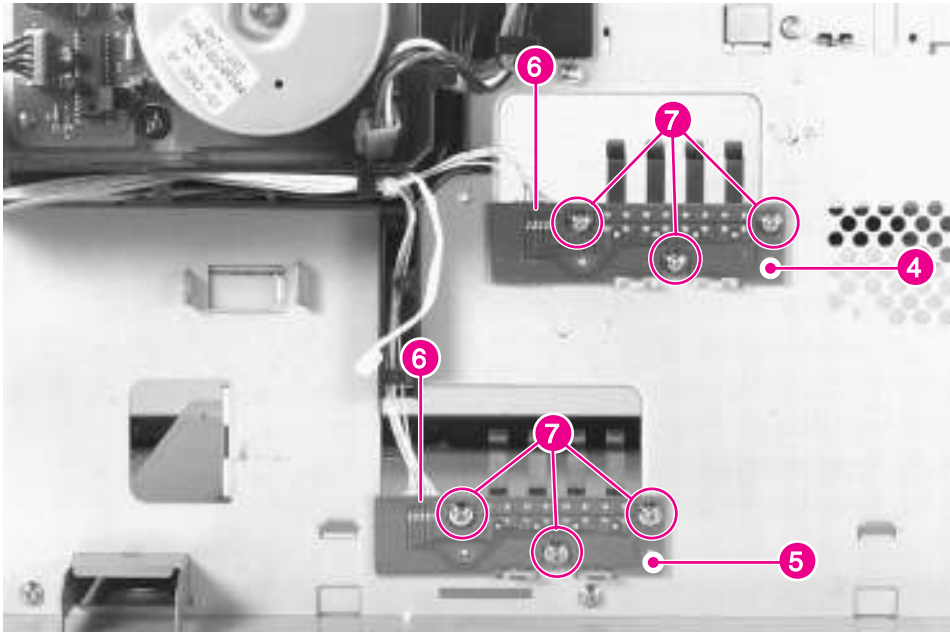

Figure 6-47 Paper Size PCA (2 of 3)
The Paper Size PCA for Tray 2 (figure 6-47, callout 4) is identical to the PCA for Tray 3 (figure 6-47, callout 5). The removal procedure for both PCAs is the same.
- 3** Unplug the connector (figure 6-47, callout 6), remove 3 screws (figure 6-47, callout 7), and remove the PCA and actuating fingers.